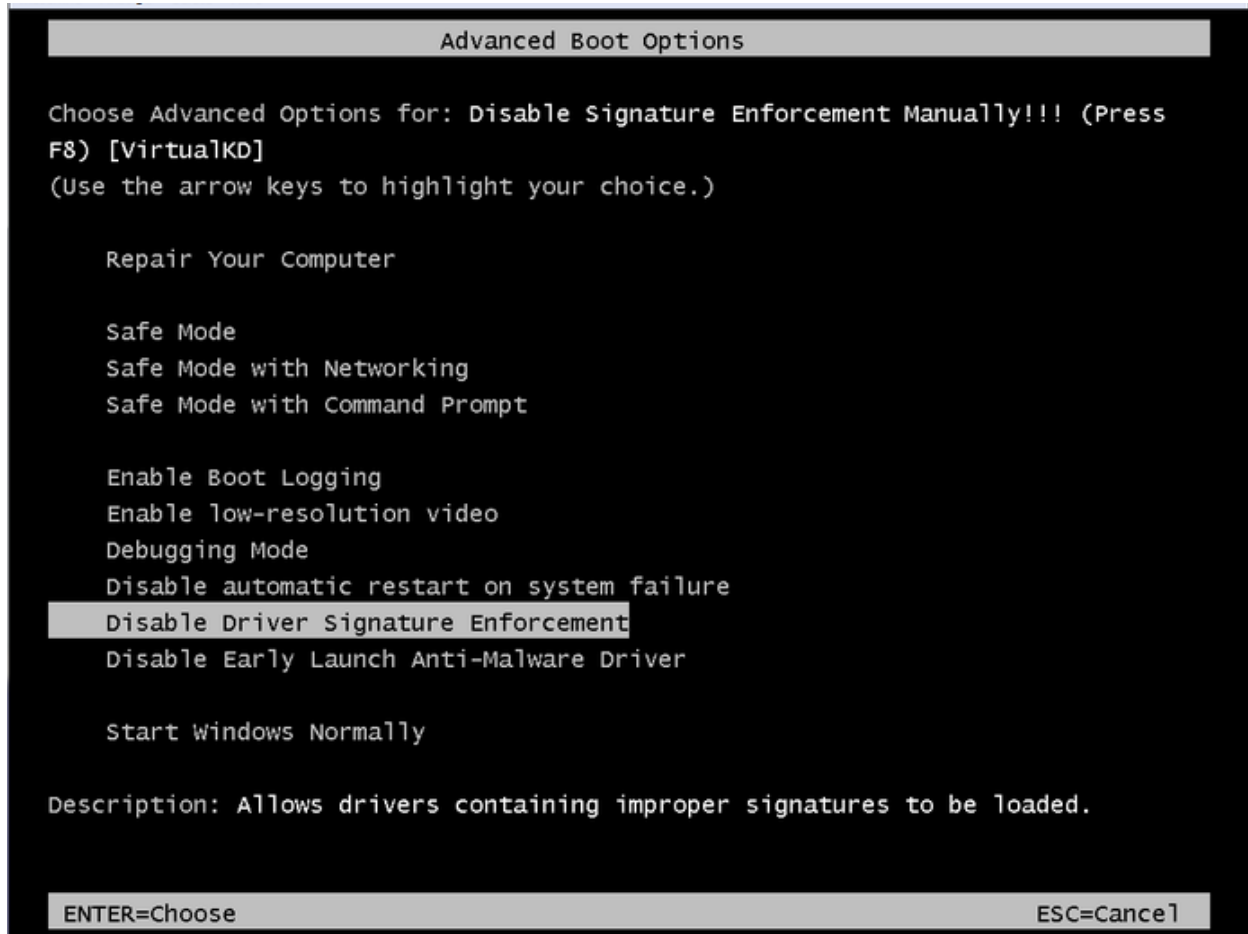

Figure 1: Disable Driver Signature Enforcement
2. Select "Disable Driver Signature Enforcement" option as shown in Figure 1, and hit Enter.